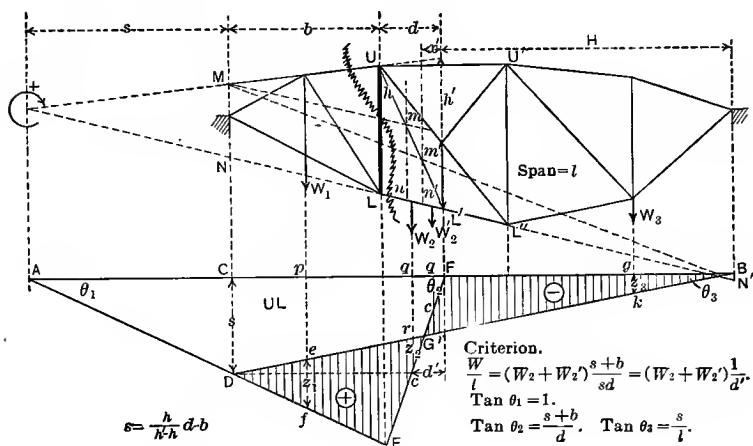

FIG. 13.
**Vertical of Sub-hanger Truss.**—In Fig. 13, the *cut stringer* for the vertical  $UL$  is the horizontal projection of  $LL'$ , since no part of the load on  $L'L''$  is supported at  $L$ . The construction of the influence diagram follows the general rule. In determining  $x'$  and  $d'$  from the truss diagram,  $h'$  and the diagonal  $UL'$  form no part of the truss proper.